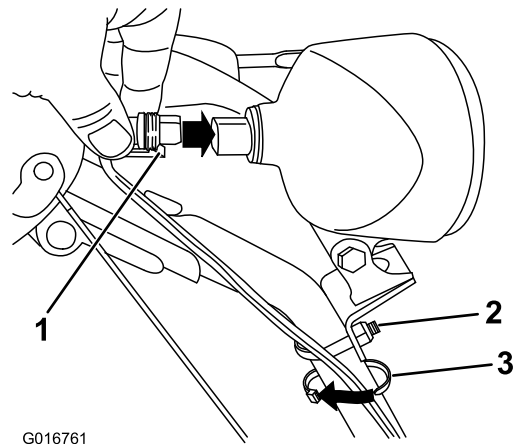

Figure 18
1. Insert the wire connector on the loose end of the wire straight into the back of the headlight until it is securely in place (Figure 18).
Note: Ensure that the plastic clip on the wire connector is on the bottom (Figure 18).
- Secure a cable tie (from the loose parts bag) around the wire and the handle about an inch (2.5 cm) below the U-bolt (Figure 18).